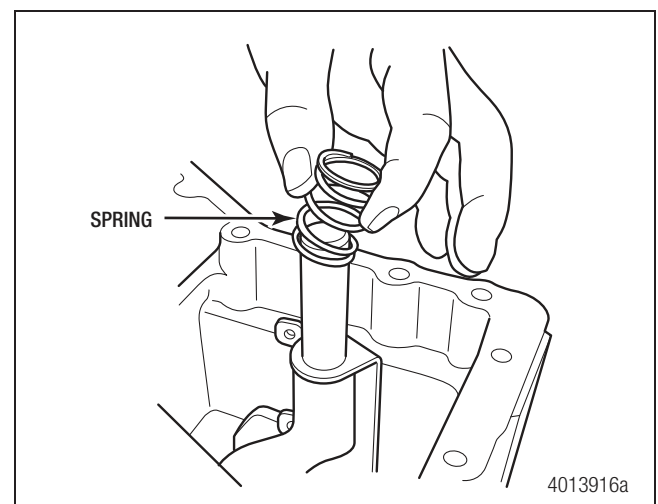

Figure 4.19
22. Remove the spring from the shift shaft. Figure 4.19.